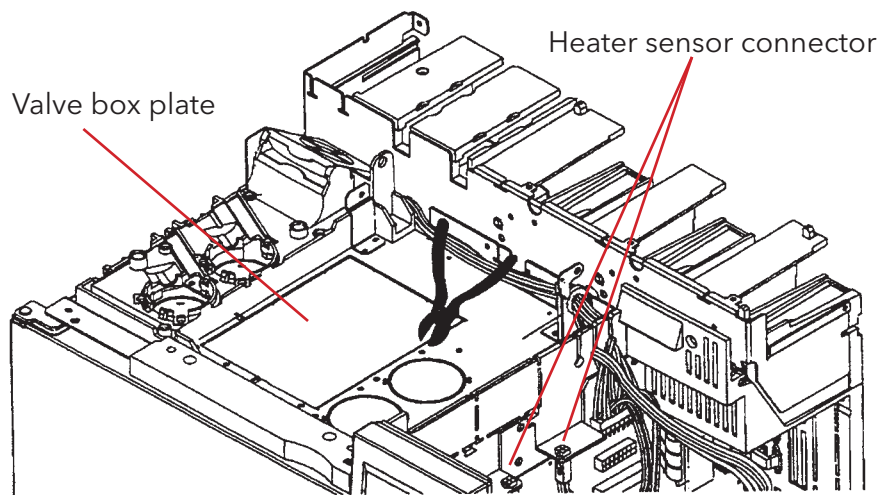

Figure 3.8. Valve Box Plate
1. Cut out and remove the valve box plate (Figure 3.8).
9. Connect the cable heater-sensor extension (PN 296368) to the existing heater cable. Connect the other end of the heater cable to the corresponding four-pin nylon sensor connector located in the electronics area above the GC motherboard (Figure 3.8).